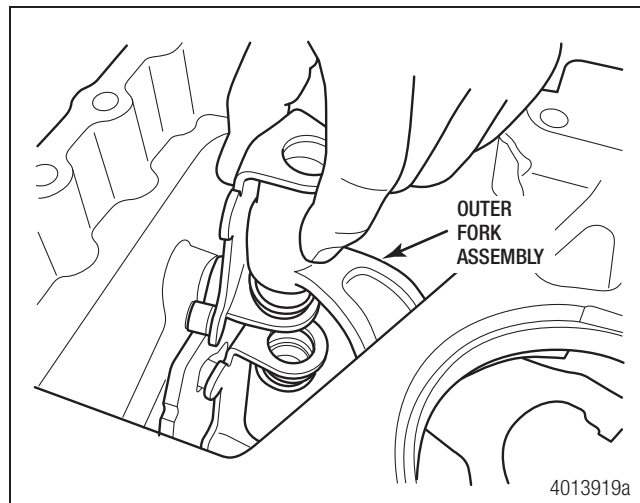
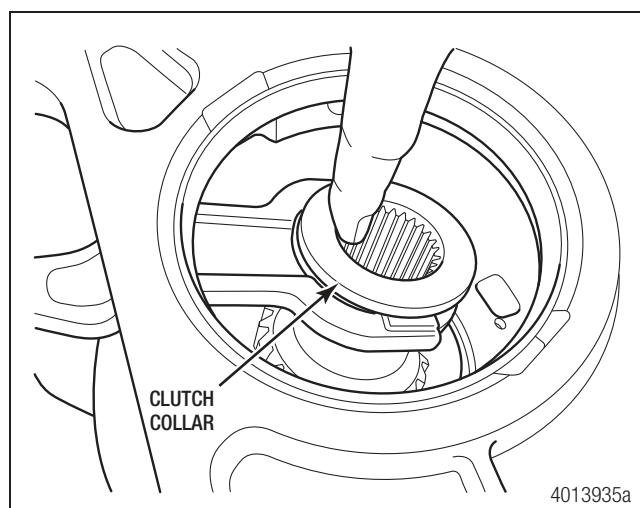

Figure 7.13
Figure 7.14
6. Lower the outer clutch collar and outer fork assembly down into the housing and capture the clutch collar in the fork. Figure 7.13 and Figure 7.14.